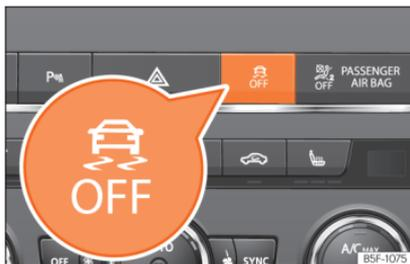

Fig. 257 Centre console: Button for switching on/off the ESC and ASR
- Press the  button »»» **Fig. 257** for approximately 1 second to switch to ESC Sport mode.
- Press the button  »»» **Fig. 257** for approximately 3 seconds to switch off the Electronic Stability programme (ESC), including the ASR function. The  control lamp lights up and the **ESC OFF** message is displayed permanently on the instrument panel display.
- The ASR and ESC function are reconnected by pressing the button  »»» **Fig. 257**.